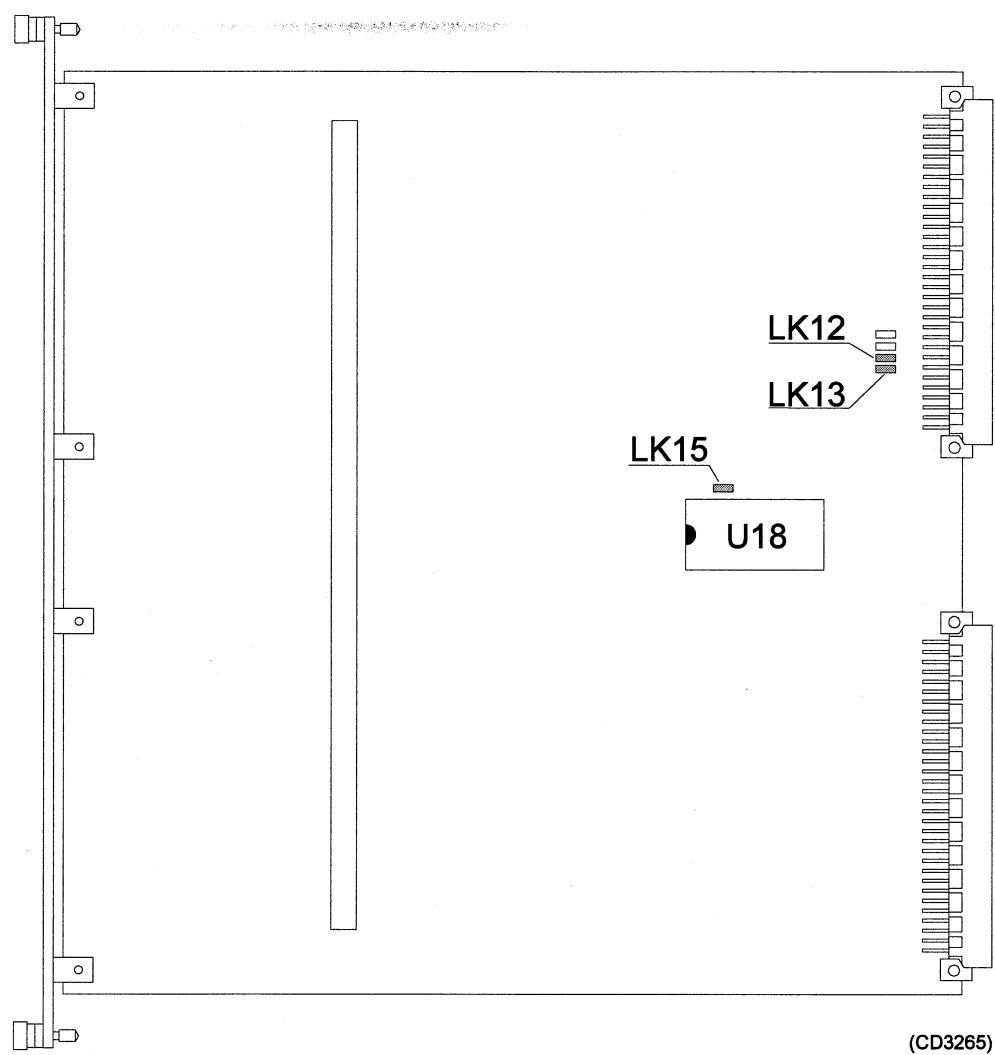

Figure 2 Mounting the IC-circuit and the links on the TIB
Figure 2 shows the location of the IC-circuit and the three links which have to be installed on the Transceiver Interface Board in the Transceiver Unit. Use the following installation procedure.
- Locate the IC-circuit in the modification kit and mount it in socket U18. For location, refer to figure 2. Be aware of the direction of the IC-circuit.
- Locate the three links in the modification kit and mount them in position LK12, LK13 and LK15 (refer to figure 2).